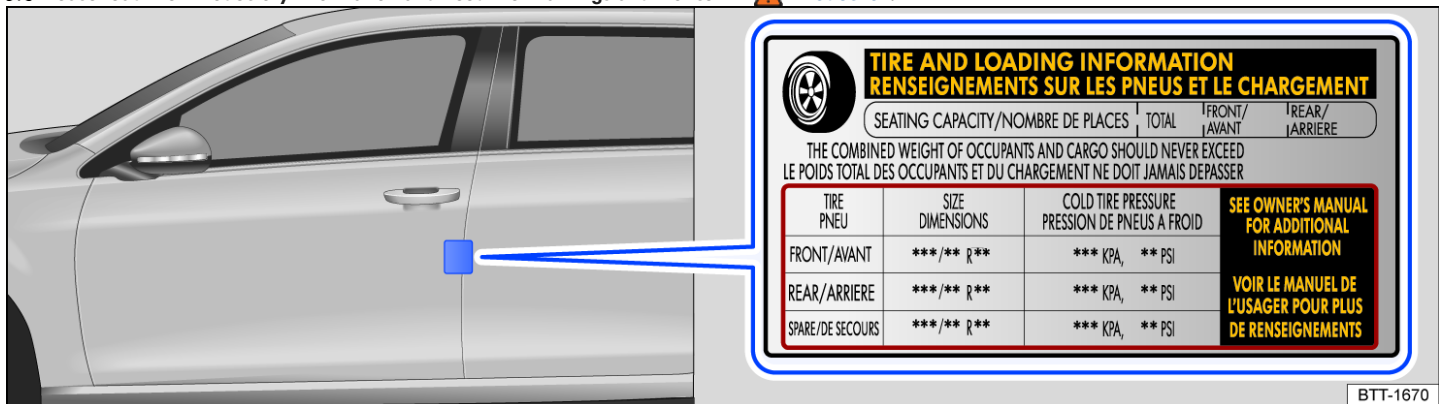

Fig. 195 On the driver door pillar: tire pressure sticker
The correct tire pressure for the tires fitted at the factory can be found on a label on the B-pillar of the driver door fig. 195. The factory-installed tires can be winter, summer or all-season tires.
- Always adjust the tire pressures to the vehicle load fig. 195.